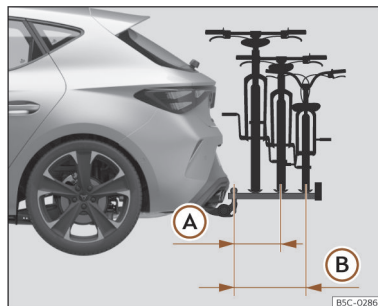

Fig. 205 Schematic representation of the maximum load overhang of a bicycle rack for two or three bicycles.
- (A) With up to 55 kg load capacity: 500 mm (approx. 19.7 in)
- (B) With 75 kg load capacity: 700 mm (approx. 27.6 in)
The maximum overhang shall not exceed 500 mm from the centre of the ball head to the centre of the rail of the last support >>> **Fig. 205 (A)** for two-bicycle racks. In the case of three-bicycle racks, the overhang must not exceed 700 mm >>> **Fig. 205 (B)**.